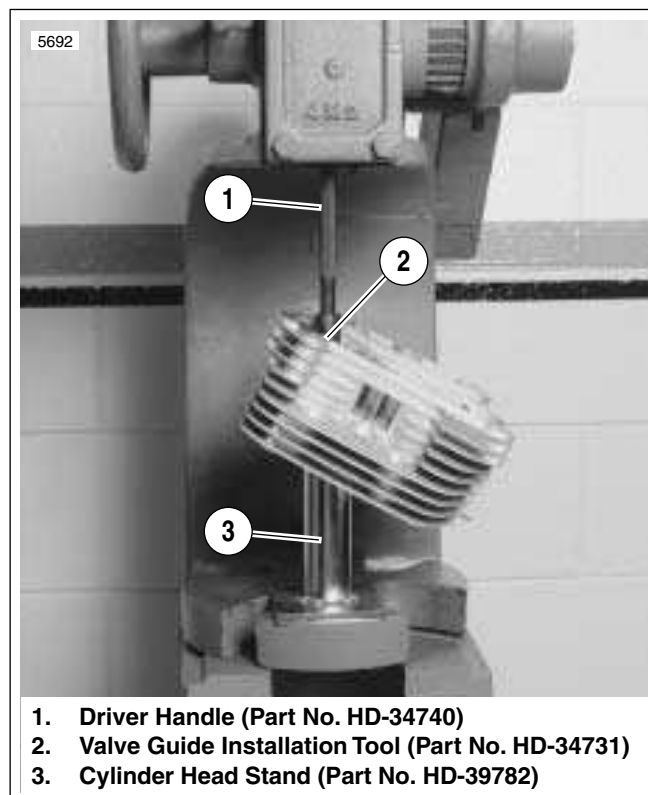

Figure 3-19. Installing Shoulderless Valve Guide
4. See Figure 3-19. Install shoulderless guides using VALVE GUIDE INSTALLATION TOOL (2) (Part No. HD-34731) and DRIVER HANDLE (1) (Part No. HD-34740). Press or drive guide until the tool touches the machined surface surrounding the guide. At this point, the correct guide height has been reached.